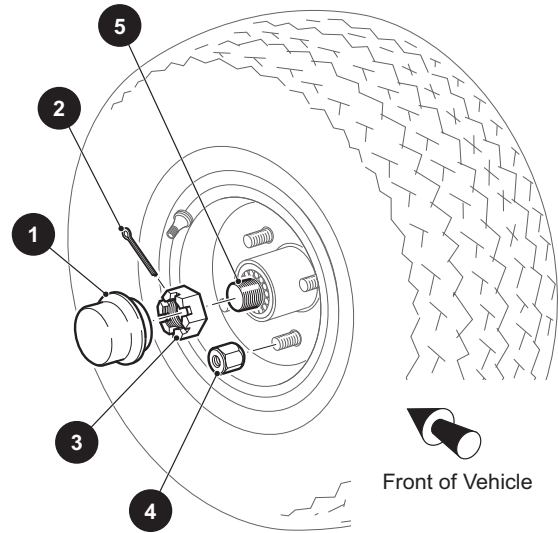

Figure 3 Bearing Adjustment
If performing a wheel bearing adjustment as part of another procedure, make sure wheel is mounted to hub hand tight with lug nuts (4) and hub is loosely retained on spindle (5) with castellated nut (Ref. Figure 3).